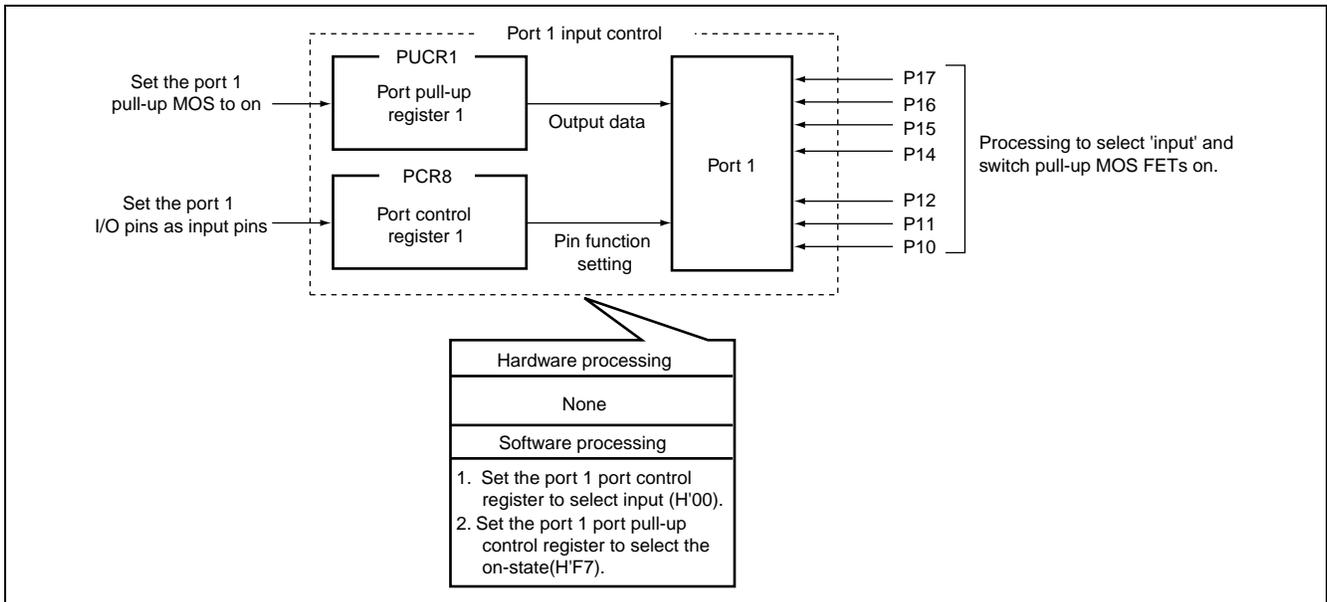

Figure 3.1 Processing for Open-Circuit Pins of Ports with Pull-Up MOSFETs (e.g. Port 1)
1. Operation of this sample task is described in figures 3.1 to 3.3. Through software/hardware processing as shown in the figures, processing for the open-circuit pins of ports with pull-up MOSFETs (e.g. port 1), general I/O ports (e.g. port 2), and input ports (e.g. port B) is applied.